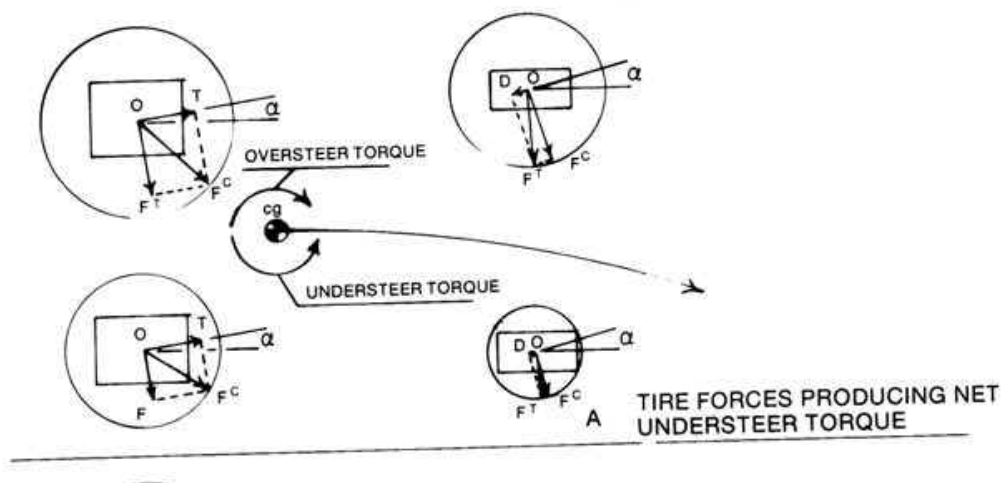

Figure 8
With zero front toe settings, the front tyre rolling drag creates a small understeer torque. Zapetal quantifies the rolling drag as being only 1% of the vertical load. However, in the corner, the drag component of the force acting on the tyre is very much greater. Drivers of low powered racing cars are familiar with how much speed you lose if the car has understeer in fast corners. Figure 8 shows the front tyre drag components of the lateral tyre force. The drag gets greater with increasing slip angle.
Figure 8 shows this important concept of the oversteer and understeer torques acting on the centre of gravity. Mark Ortiz, in my view the best writer in vehicle dynamics, often uses this concept to describe how a car will gain understeer or oversteer. Even if we can't calculate hard numbers, we can hopefully predict the direction the set up will take, as we attempted with this Carroll Smith Formula Ford example.
- With low profile tyres the slip angles will be a lot less. The tyre drag will be less. The slip angle on the inside tyre will have a smaller drag component (Figure 8). So it may be more difficult to use pro-Ackerman to create the oversteer torque. The toe out from the slip angles will be less. The slip angle variation from outside to inside tyre will be a smaller number, requiring different Ackerman to achieve what we want.